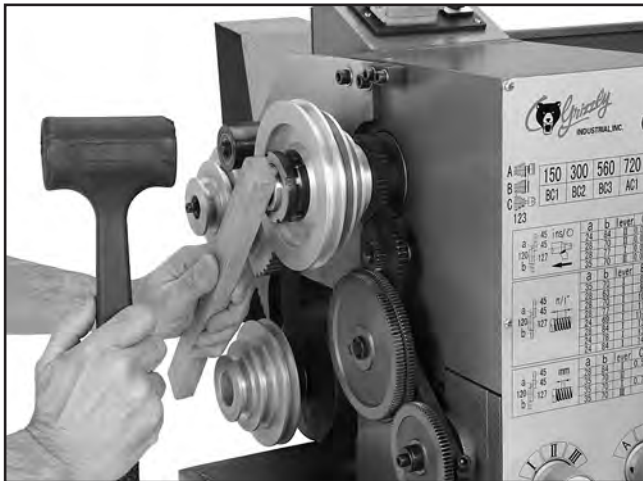

Figure 92. Producing detectable spindle end-play.
6. Place a wooden block over the outboard end of the spindle, and hit it soundly with the heavy dead blow hammer (see **Figure 92**). Your goal is to slide the spindle forward just enough to introduce spindle end-play that you can feel by hand.